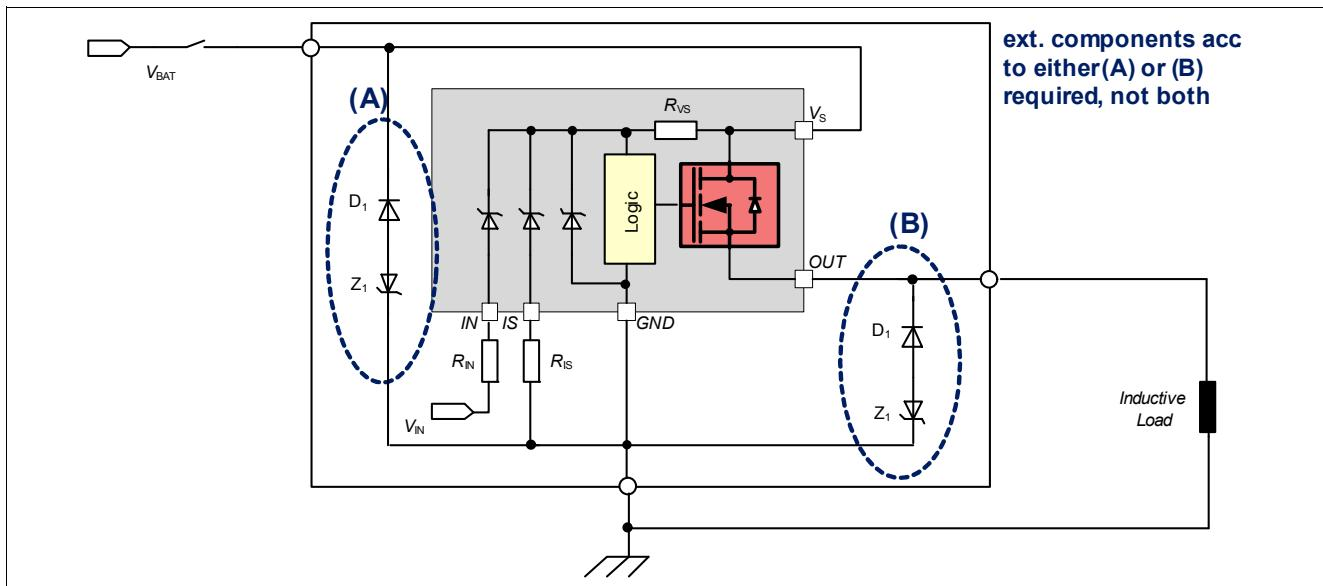
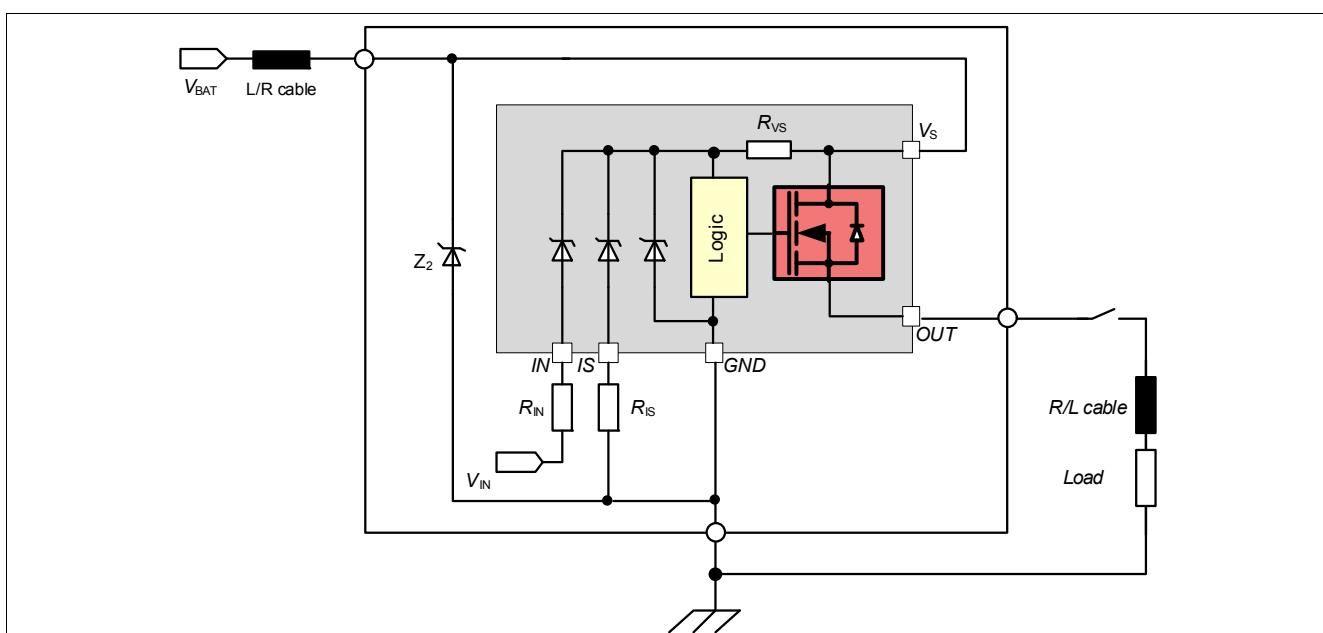

Figure 15 Loss of V_S
Figure 16 Loss of Load
In case of loss of V_S connection with charged inductive loads, a current path with sufficient load current capability has to be provided, to demagnetize the charged inductances. It is recommended to protect the device using a Zener diode together with a diode ($V_{Z1} + V_{D1} < 16$ V), with path (A) or path (B) as shown in Figure 15.
For higher clamp voltages, currents through all pins have to be limited according to the maximum ratings. Please see Figure 15 and Figure 16 for details.